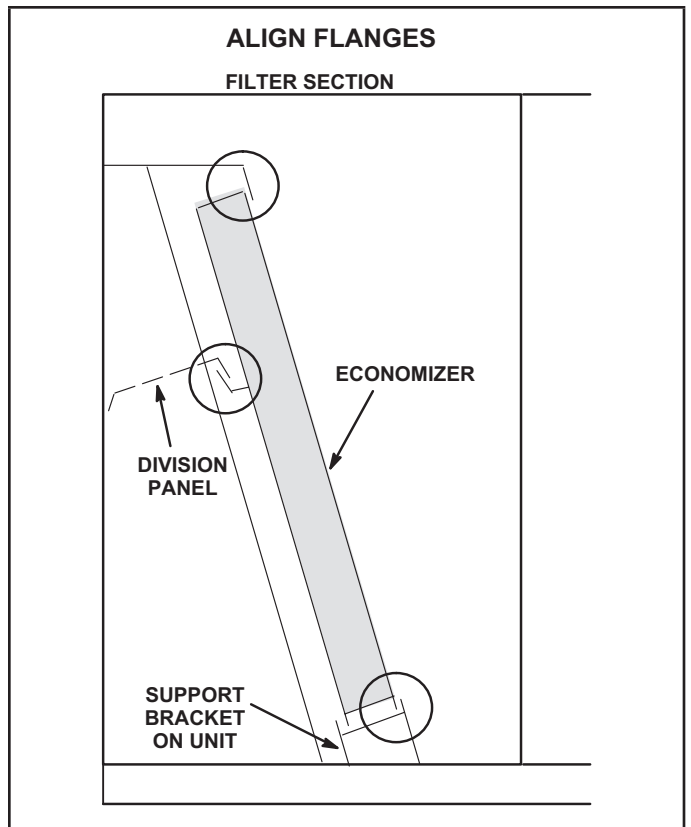

FIGURE 24
- 3 - Align bottom of economizer with economizer support bracket and slide economizer into unit. Make sure the flanges align as shown in figure 24.